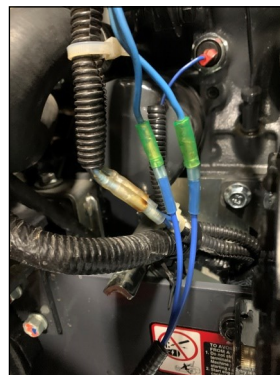

Fig. 7.12 (Connect Dynamo Wiring)
- 7.12 See fig. 7.12. Re-connect the OEM dynamo wires to the vehicle wire harness. Connect the blue wires with the two bullet terminals from the A/C harness to the bullet terminals on the secondary dynamo.